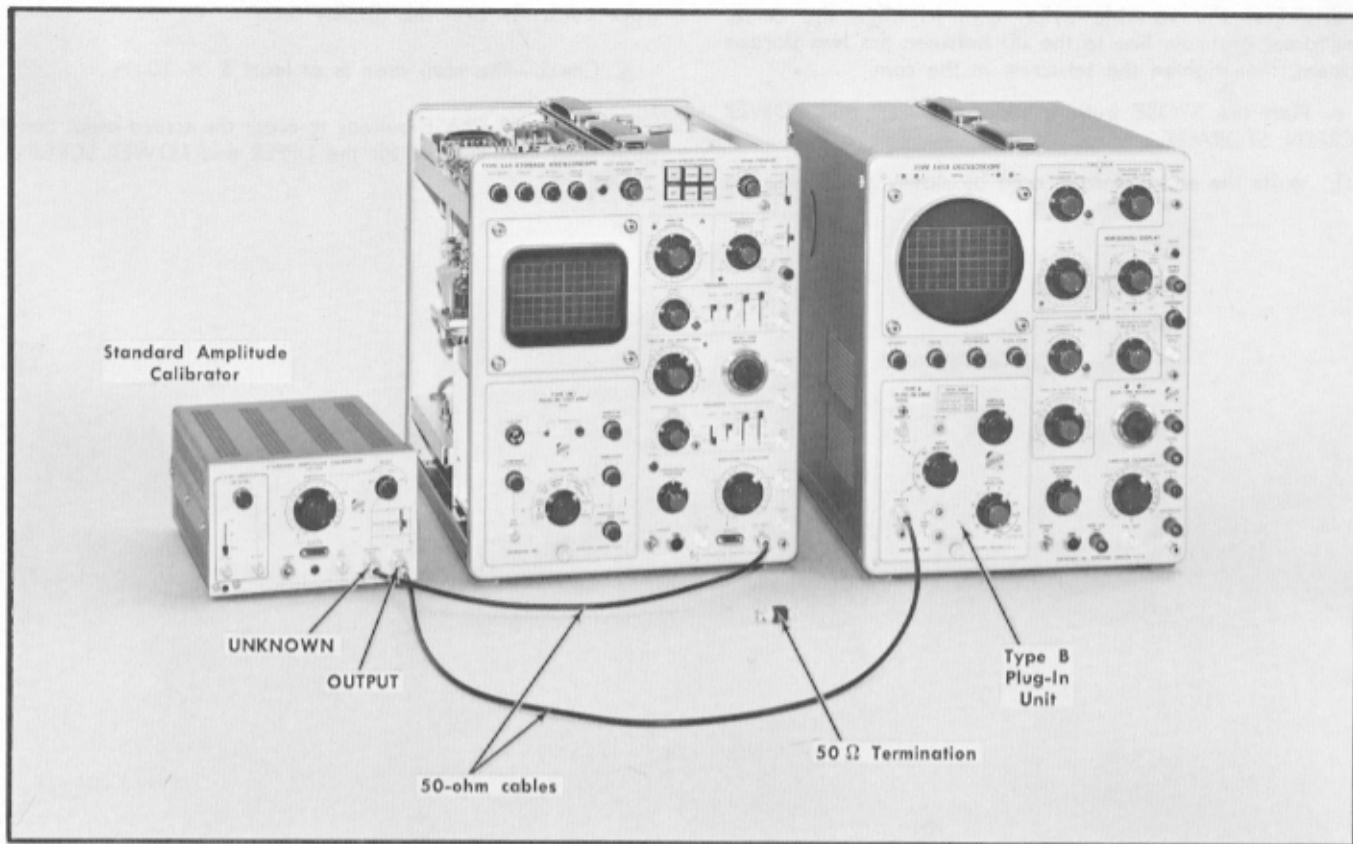

Fig. 6-7. Equipment setup for steps 7, 8 and 9.
- Equipment setup is shown in Fig. 6-7.